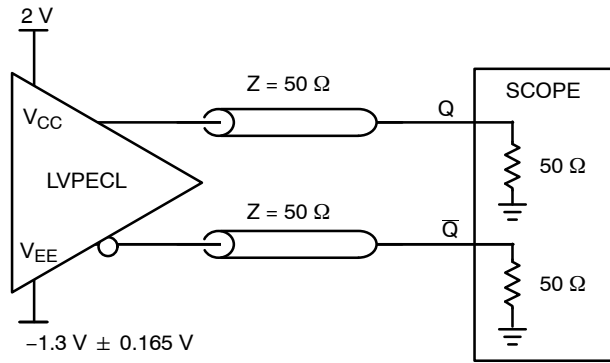

Figure 4. Output Load AC Test Circuit (Split Power Supply)
2. Outputs terminated with $50\ \Omega$ to $V_{CC} - 2.0\text{ V}$. See Figures 4 and 12.
- Output terminated with $50\ \Omega$ to $V_{CC} - 2.0\text{ V}$. See Figures 4 and 12.